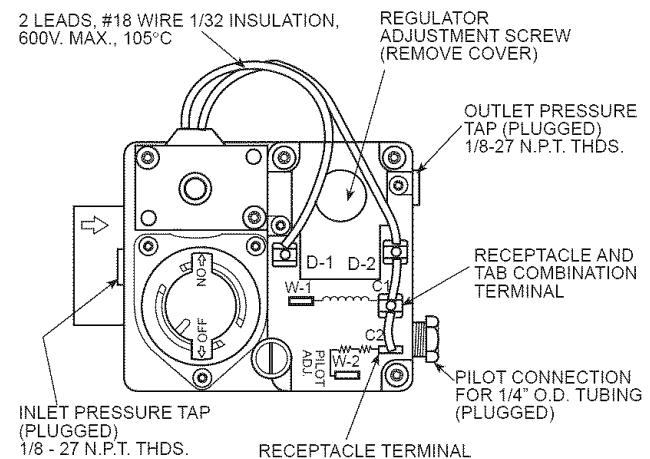

Fig. 46 — Gas Valve (48PG Only)
6. Remove screw cap covering regulator adjustment screw (See Fig. 46).